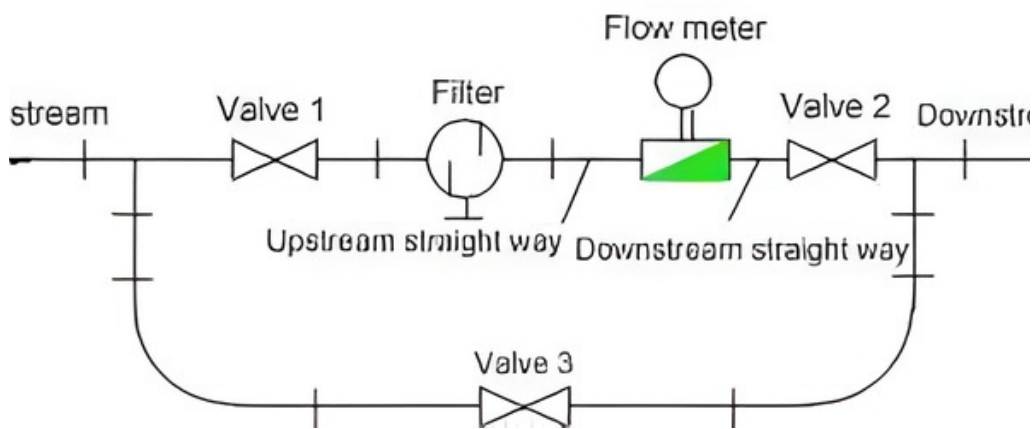

Figure 4
- (1) The flow meter can be installed horizontally and vertically, and the fluid direction must be upward when installed vertically. The liquid should fill the pipe without air bubbles.
- (2) During installation, the liquid flow direction should be consistent with the direction of the arrow indicating the flow direction on the flowmeter housing. There should be at least a straight pipe section of 10 times the diameter at the upstream end, and a straight pipe section of no less than 5 times the diameter at the downstream end.
- (3) The flow meter should be far away from the external electromagnetic field. If it cannot be avoided, the necessary shielding measures should be taken.
- (4) In order not to affect the normal delivery of liquid during maintenance, a bypass pipeline should be installed at the place where the flow meter is installed (Figure 4).